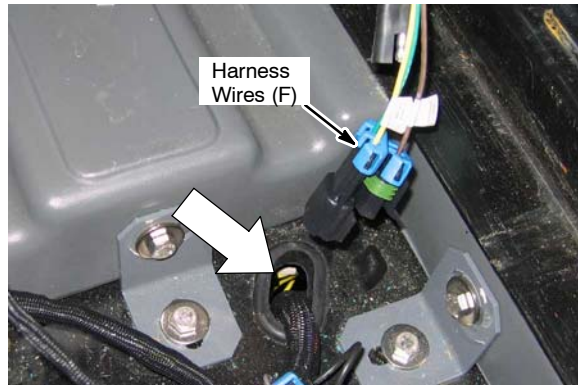

Fig. 11
11. Route the *ec-H2O* harness wires (F) down through hole as shown (Figure 11).